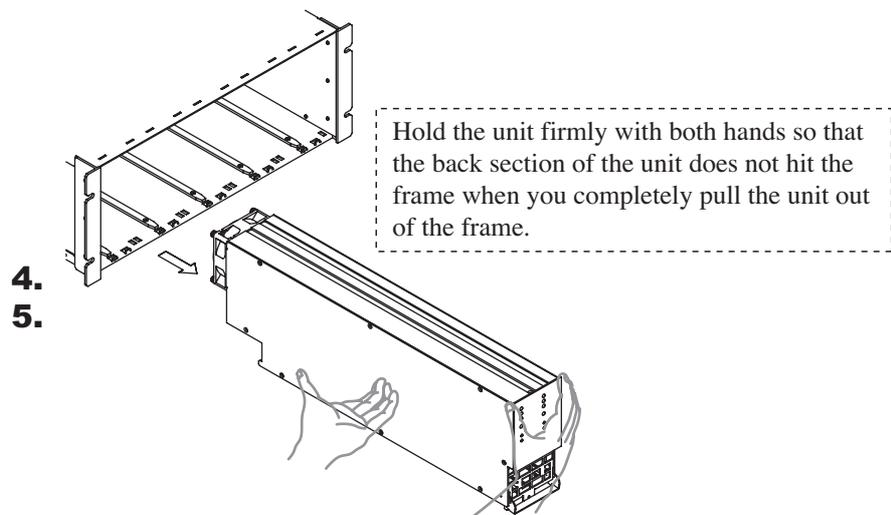

Fig. 1-5 Removing the Charge/Discharge Power Supply Unit (PFX2011 Example)
2. Remove the louver. See Fig. 1-5.
The lock is released. Hold the unit with both hands as shown in Fig. 1-5, and pull it slowly out of the slot.